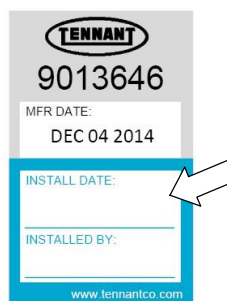

FIG. 132
4. Fill in the installation date on the new cartridge label (Figure 132).